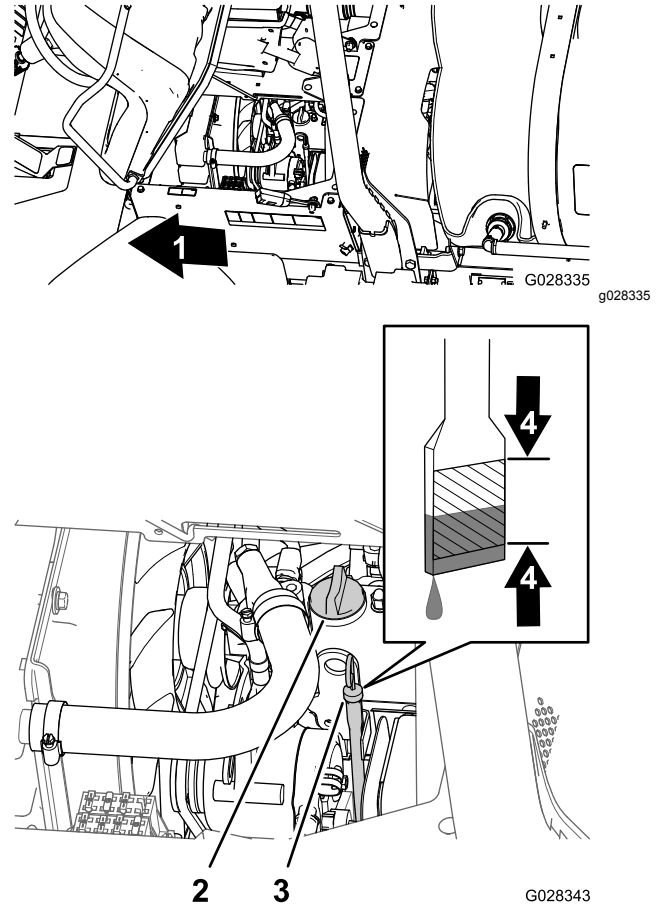

Figure 67
- Remove the dipstick, located under the passenger seat, and wipe it with a clean rag (Figure 67).
- If the oil level is low, remove the filler cap from the valve cover (Figure 67) and pour oil into the filler neck until the oil level is up to the FULL mark on the dipstick.
- Install the oil-filler cap (Figure 67).
- Install the dipstick firmly in place (Figure 67).